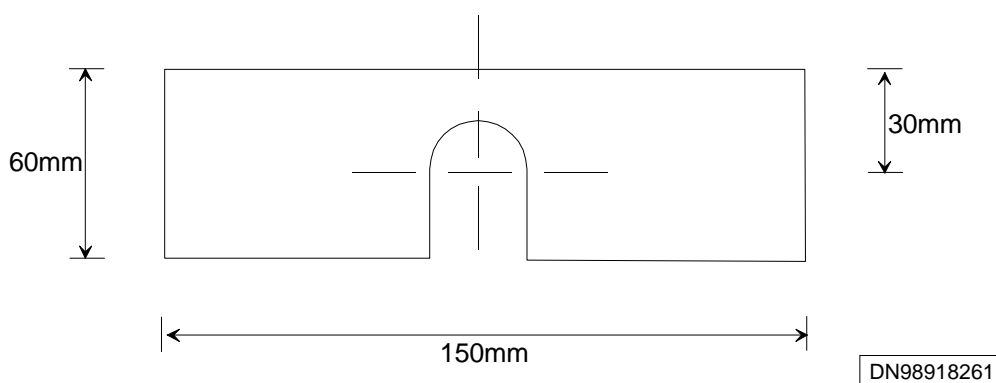

Figure 4 Recommended shim dimensions
- When two or more plinths are mounted adjacent, the top face of the plinths must be levelled within ± 0.5 mm of each other to a true horizontal plane. When necessary, the plinths can be adjusted using shims between the base and the plinth. These shims are supplied by the customer. Recommended shim dimensions are shown in Figure 4.